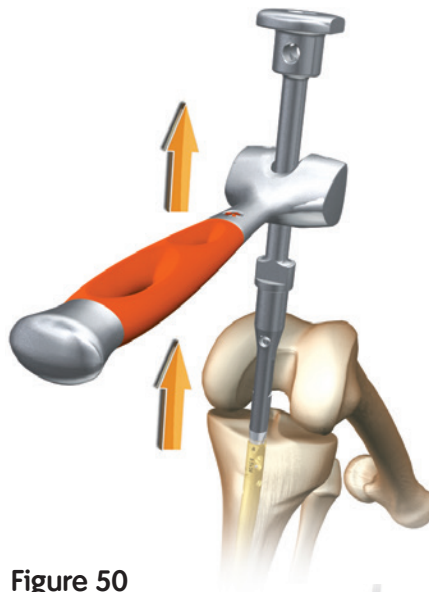

Figure 50
1. Use the Medium Hexdriver/T-handle assembly to remove the Nail Cap or Nail Cap Set Screw, if implanted, all of the distal locking screws, and all but one of the proximal locking screws. (Figure 50).
5. Use the Slotted Hammer with a back-slapping motion to extract the nail (Figure 50).